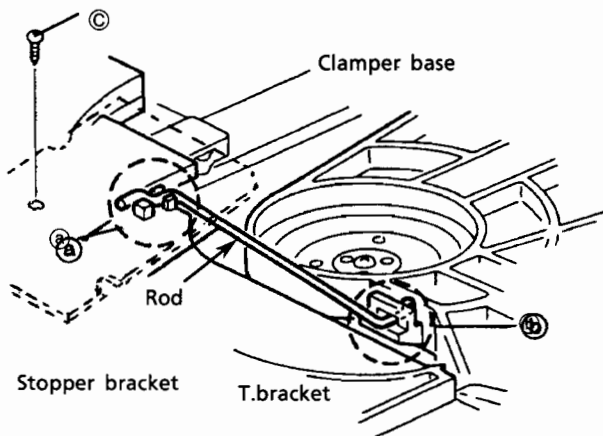

Fig. 27
2. Remove the screw ③ holding the stopper bracket.(See Fig.27) ---- (U.S.A only)
3. Remove the rod from both ends' hooks which are secured on T.Bracket ② and clamber base④.[See Fig. 27)